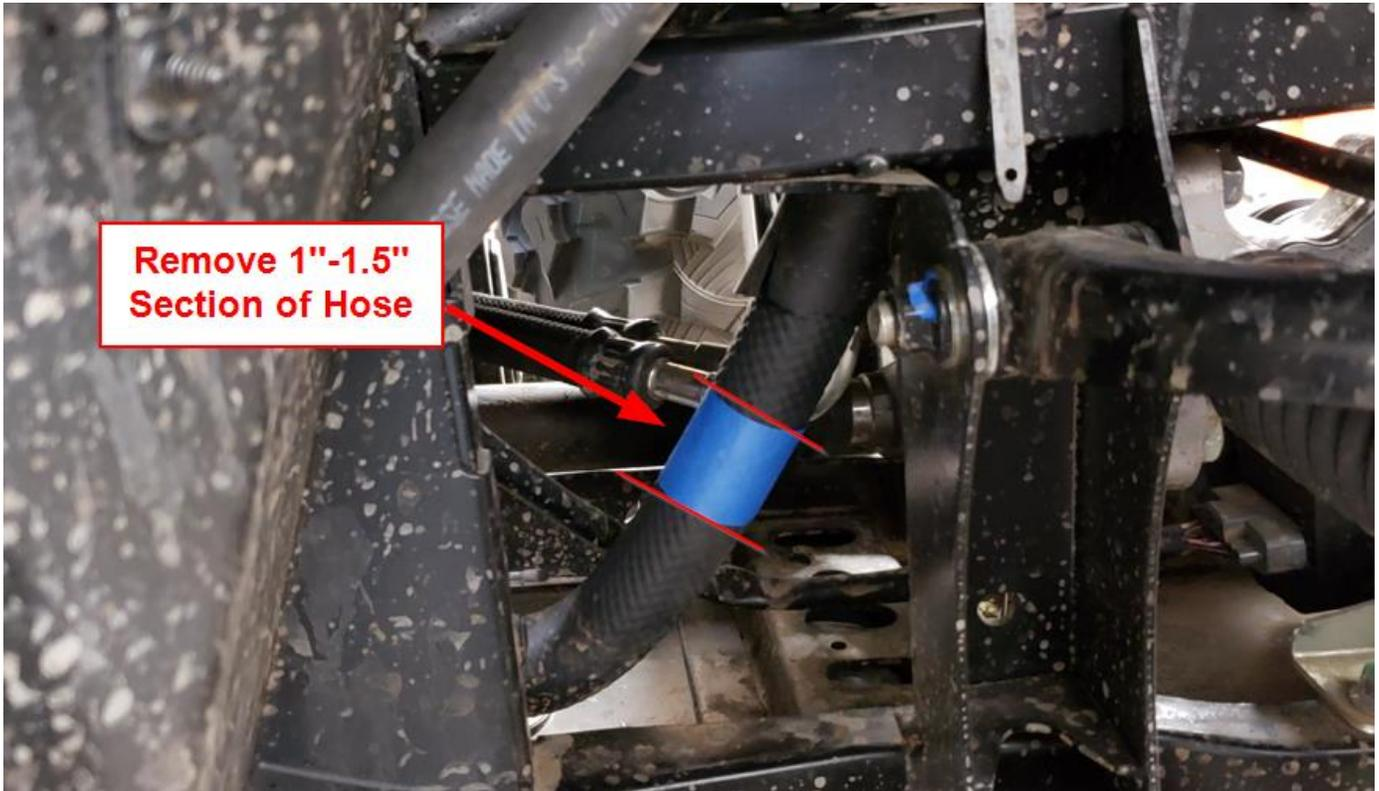

Figure 37
- k. Perform a similar operation on the Radiator Hose found from inside the Passenger Side Wheel Well as shown in Figure 37. Cut out a 1"-1.5" chunk of the hose. Insert the remaining Aluminum Y as shown in Figure 38. Secure using #16 Hose Clamps. Insert the Longer 5/8" Coolant Hose over the Brass fitting and secure using a #10 Hose Clamp.